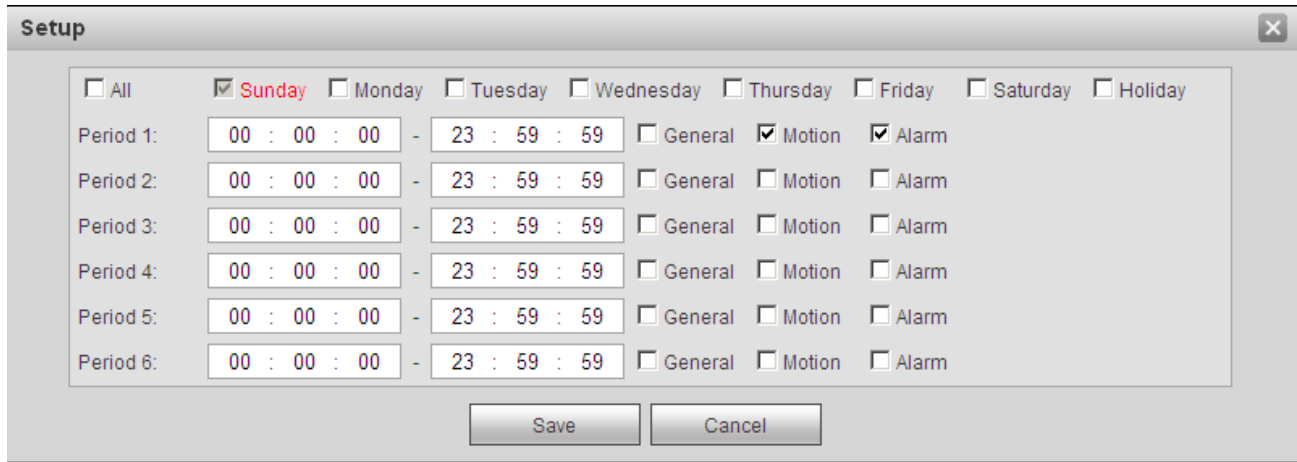

Figure 5-93
Step 2. From Monday to Sunday select snapshot time, click on setup on the right. See Figure 5-93.